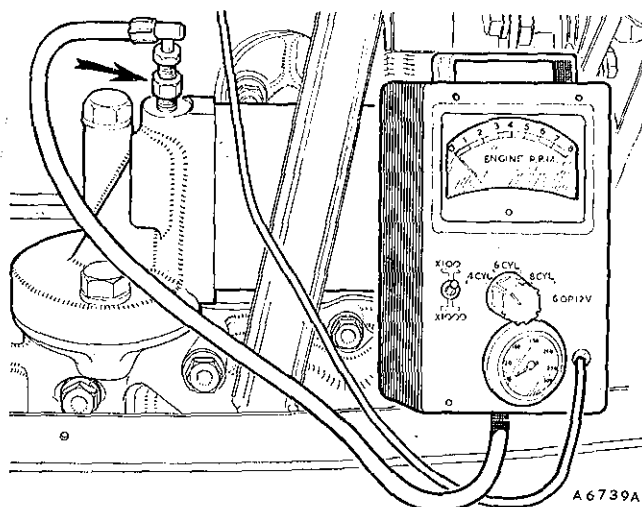

Fig. Fa.5
- (22) Start and run the engine until it reaches its normal working temperature and check the oil level.
- (23) Connect a suitable tachometer or that of Service tool 18G 677 or 18G 677 Z (see Fig. Fa.5).
- (26) Check and top up the oil level (see Section Aa.1).
- (27) Remove the pressure point plug on the engine oil filter, fit Service tool adaptor 18G 677 C, and connect Service tool 18G 677 Z (see Fig. Fa. 5) or use pressure gauge (Service tool 17G 502 A with pipe and adaptor 18G 502 K).
- (28) Start and run the engine until the oil temperature is 80° C. (176° F.) (check with a thermometer inserted into the dipstick hole). Re-start and run the engine at 1000 r.p.m. and check the following approximate pressures: